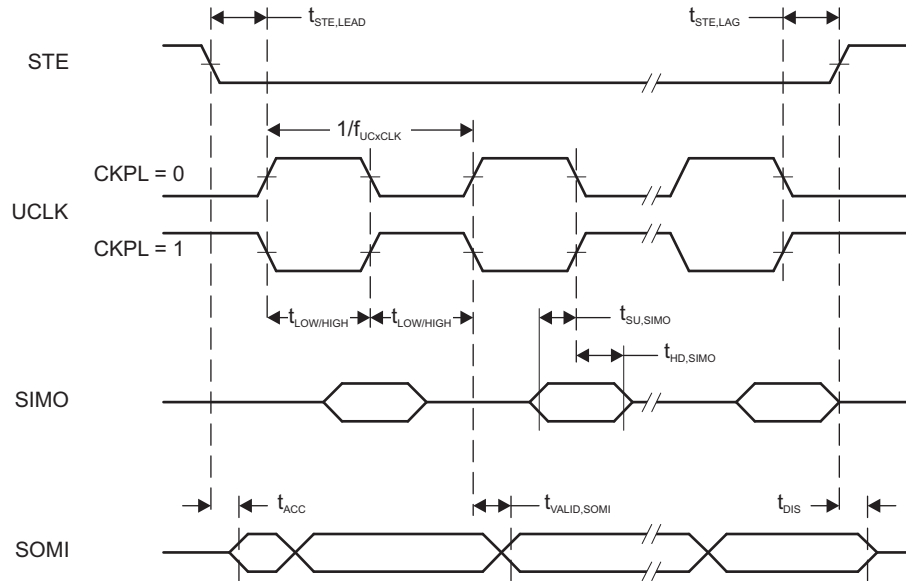

Figure 5-14. SPI Slave Mode, CKPH = 0
- (2) Specifies the time to drive the next valid data to the SOMI output after the output changing UCLK clock edge. See the timing diagrams in Figure 5-14 and Figure 5-15.
- (3) Specifies how long data on the SOMI output is valid after the output changing UCLK clock edge. See the timing diagrams in Figure 5-14 and Figure 5-15.